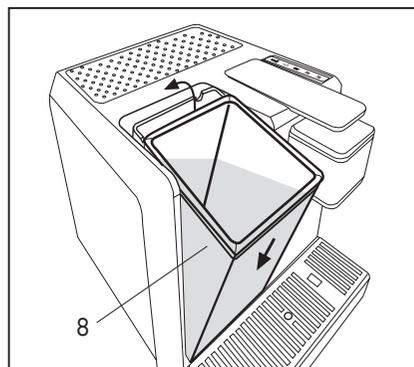

Fig. 3
- Replace the tank, tilting it slightly and resting it on the water valve. Press the top of the machine until you hear a click. To avoid water leakages, check that the tank is firmly secured **(Fig.3)**